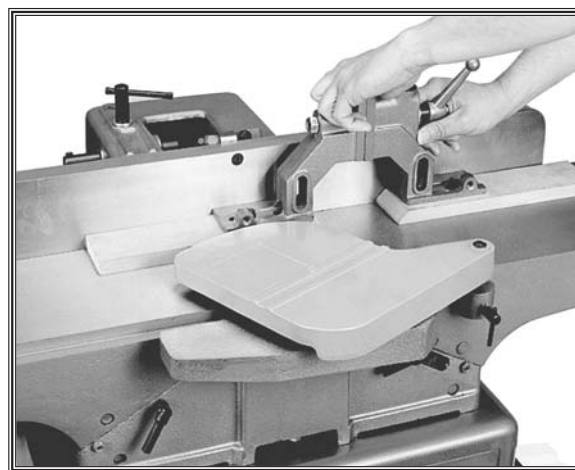

Figure 55. Resurfacing a shaper fence on a jointer.
3. Resurface the fences on the jointer, as shown in **Figure 55**.